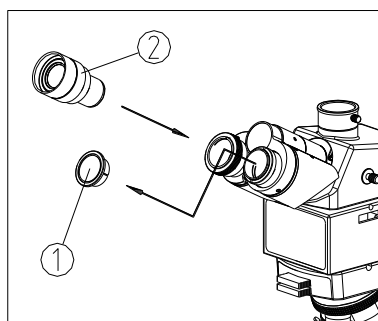

Fig.15
- (1) Take down the cover of eyepiece tube ①. (See Fig. 15)
- (2) Insert the eyepiece ② into the eyepiece tube, until touch the bottom.